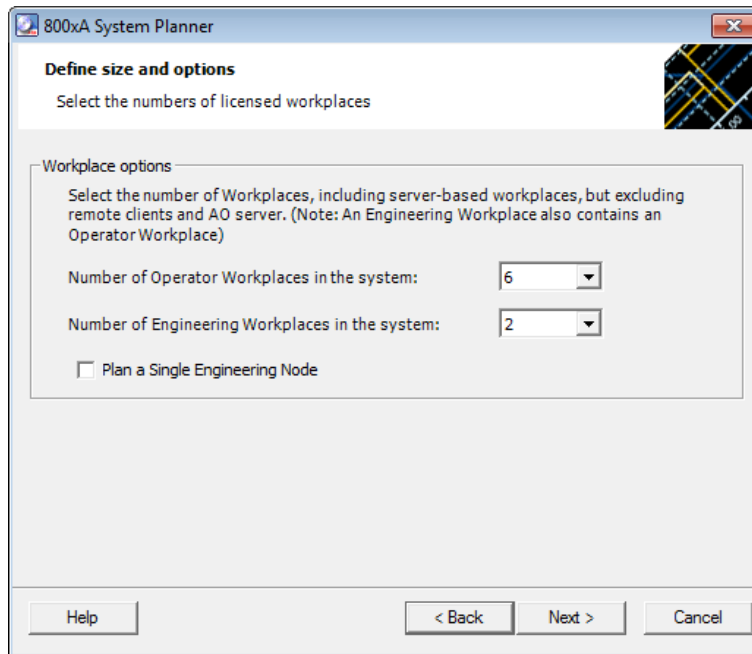

Figure 6. Select the Number of Licensed Workplaces Dialog Box
Use the Select the Number of Licensed Workplaces dialog box (Figure 6) to specify the number of Operator Workplaces and Engineering Workplaces in the system.
- Each Engineering Workplace includes an Operator Workplace; therefore, the number selected in the **Number of Operator Workplaces in the system** drop-down list is equal to the total number of Operator Workplaces minus the number selected in the **Number of Engineering Workplaces in the system** drop-down list. The system being planned in the example shown in Figure 6